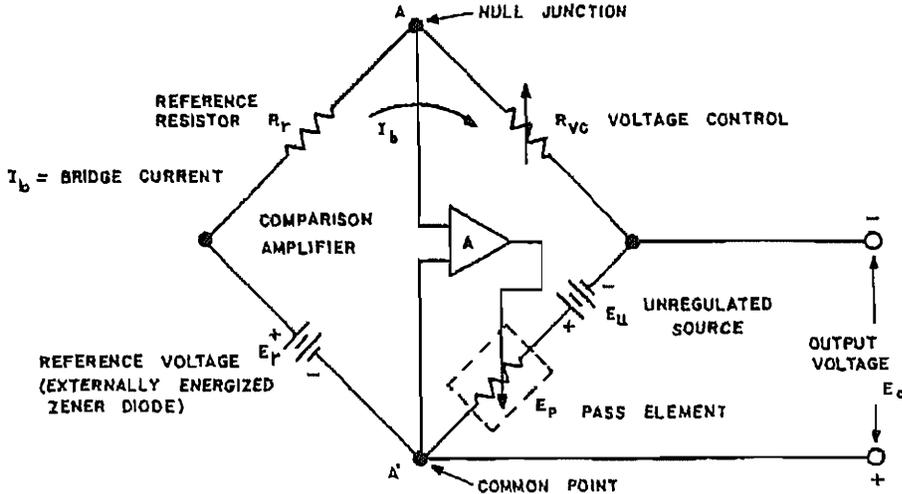

FIG. 3-4 KEPCO POWER SUPPLY AND COMPARISON BRIDGE CIRCUIT.
3-8 **GENERAL.** A few general remarks may be in order to familiarize the user of this equipment with the terminology and basic equations pertaining to remote programming of the Kepco PAT Power Supplies. Electrically, the power supply consists of the unregulated d-c source (E_u), the pass element (E_p), the d-c error amplifier (A), and a comparison circuit which resembles a 4-arm electrical bridge. (Refer to FIG. 3-4.) The elements of the bridge are arranged to produce a virtual zero at the amplifier input when the bridge circuit is at balance ($V_{AA'} = 0$). Any tendency for the output voltage to change in relation to the reference voltage (E_r) creates an error signal which, by means of negative feedback and the amplifier, tends to correct the output voltage towards restoration of bridge balance.